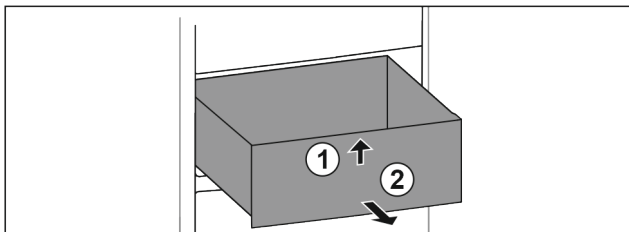

Fig. 120
- ▶ Lift drawer at the front. Fig. 120 (1)
- ▶ Remove drawer to the front. Fig. 120 (2)